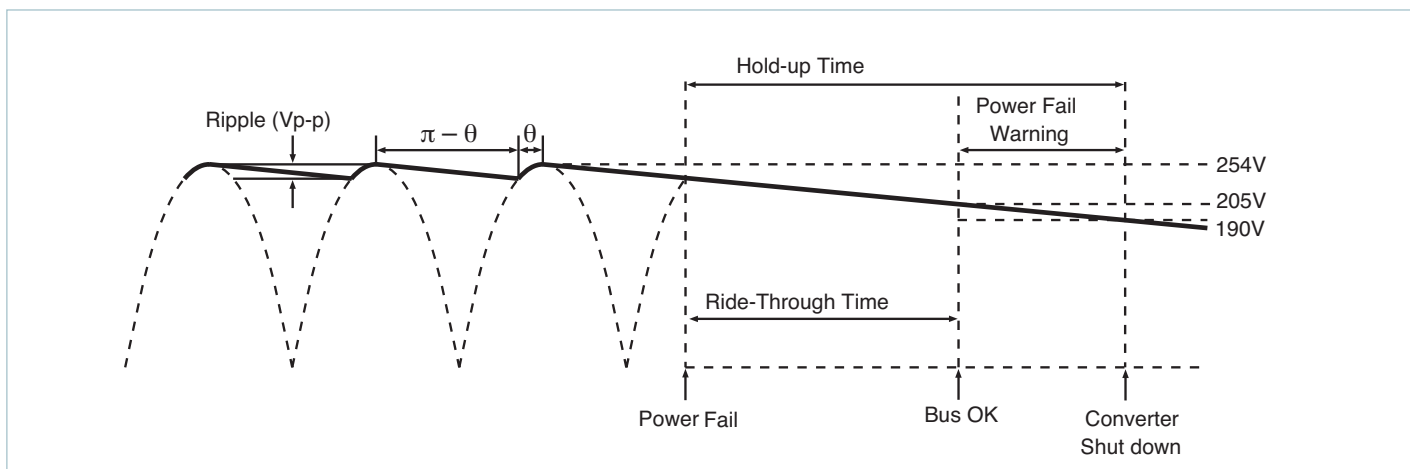

Figure 15 — Hold-up time
Hold-up capacitor values should be determined according to output bus voltage ripple, power fail hold-up time, and ride-through time (see Figure 15). Many applications require the power supply to maintain output regulation during a momentary power failure of specified duration, i.e., the converters must hold-up or ride through such an event while maintaining undisturbed output voltage regulation. Similarly, many of these same systems require notification of an impending power failure in order to allow time to perform an orderly shutdown.
The power fail warning time ( $\Delta t$ ) is defined as the interval between BOK and converter shutdown (EN) as illustrated in Figure 15. The Bus-OK and Enable thresholds are 205V and 190V, respectively. A simplified relationship between power fail warning time, operating power, and bus capacitance is obtained by inserting these constants in Equation (3):
Equation 3 is again used to determine the required capacitance. In this case, V1 and V2 are the instantaneous values of bus voltage at the peaks and valleys (see Figure 15) of the ripple, respectively. The capacitors must hold up the bus voltage for the time interval ( $\Delta t$ ) between peaks of the rectified line as given by: